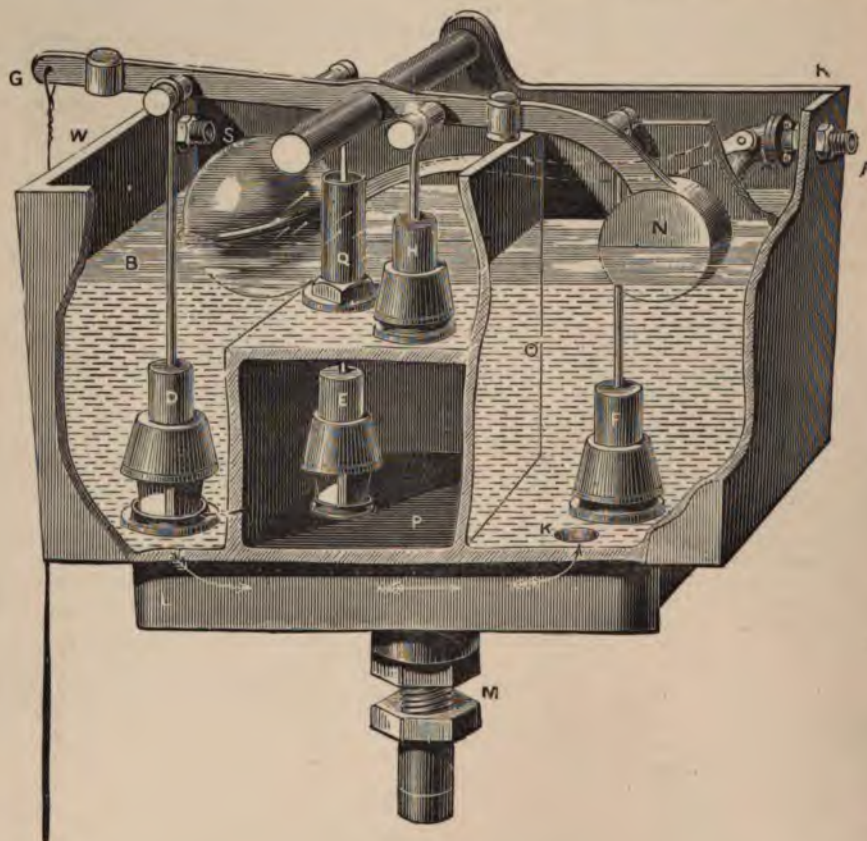

FIG. 652.
the valve on the N end of the lever is closed, so as to prevent the water entering from Z to W. The valve in the bottom of the compartment W allows the water to flush the W.C., which must take place when the seat is sat upon, and the valve O opens on the rising of the person from the closet-seat. For this action see also Fig. 652. So that this can be arranged for either single or double action. I may also remind my readers that any of the double action closet valves before described may be adapted to seat-action closets. Perhaps the better title for these valves would be double-flush action valves.
**Tylor's After-flush, and Double Valve Action Service Box Waste Preventer.** [Fig. 652]. Patented.